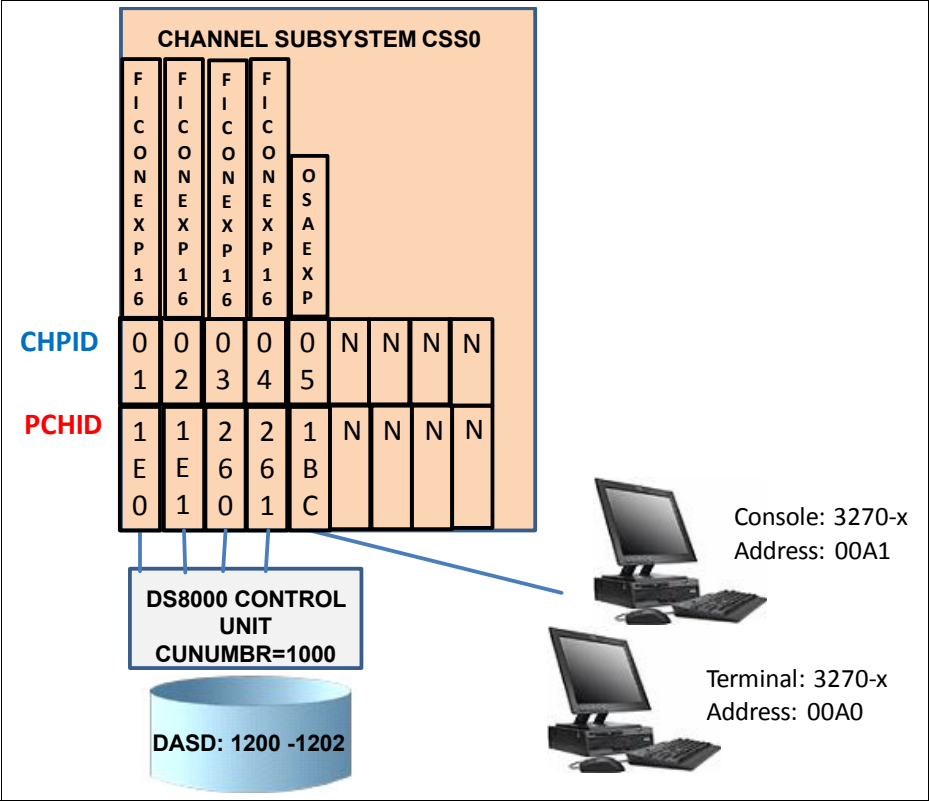

Figure 5-10 I/O configuration design for COD restore
- The CSS must be defined and the CHPIDs must be manually assigned to each selected PCHID port, which are used to produce our I/O configuration design, as shown in Figure 5-10.